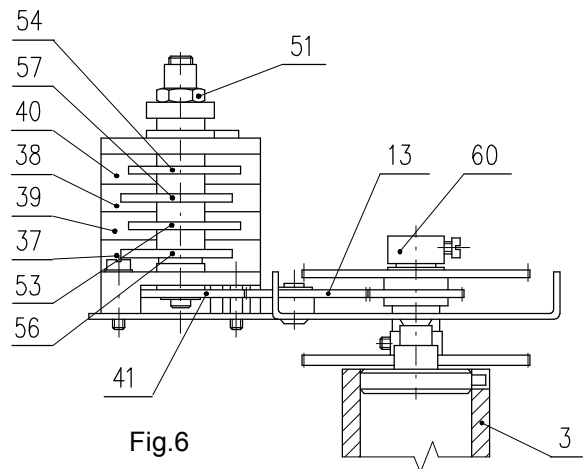

Fig.6
After loosen a nut of the position unit (51) is possible to rotate (53),(54),(56),(57). The construction of position unit is designed so that transforming one of the cams, it does not disturb the others. After adjusting the position unit is needed to tight the nut (51). The switch-off cams are designed to turn-off the positional unit microswitches (37),(38),(39),(40) (Fig.6)